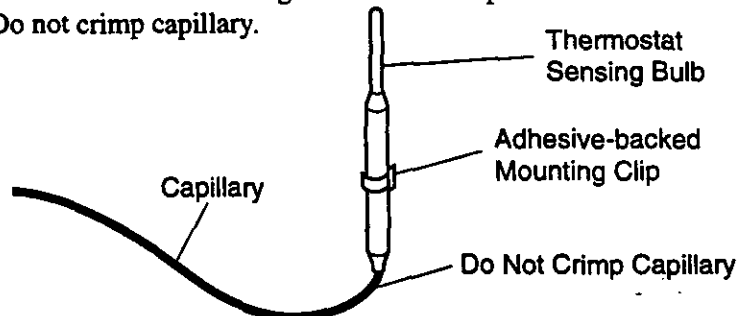

Figure 33 - Positioning the Thermostat Sensing Bulb in the Vertical Position with the Capillary at the Bottom
- The mounting clip must be a minimum of 3" from bottom of fireplace to prevent crimping of capillary. Once you have decided on a location, clean the area thoroughly. Remove the paper backing from the adhesive on back of mounting clip. Press the clip into the new location so that the thermostat sensing bulb will be positioned vertically with the capillary at the bottom (see Figure 33). Slide the thermostat sensing bulb into the clip.